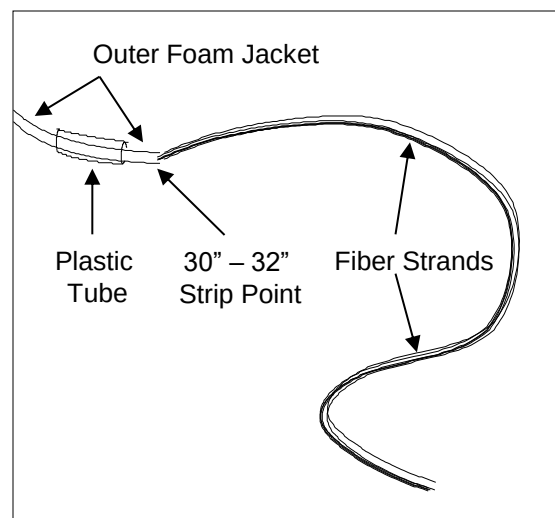

Figure 1
5.2 **Important Step.** When terminating the 2, 4, and 6 fiber bundles, before stripping outer foam jacket, slide plastic tube provided in the FTFLD02, FTFLD04, and FTFLD06 Field Termination Kits over end of bundle. Position it slightly beyond the 30" – 32" point. **See Fig. 1.**